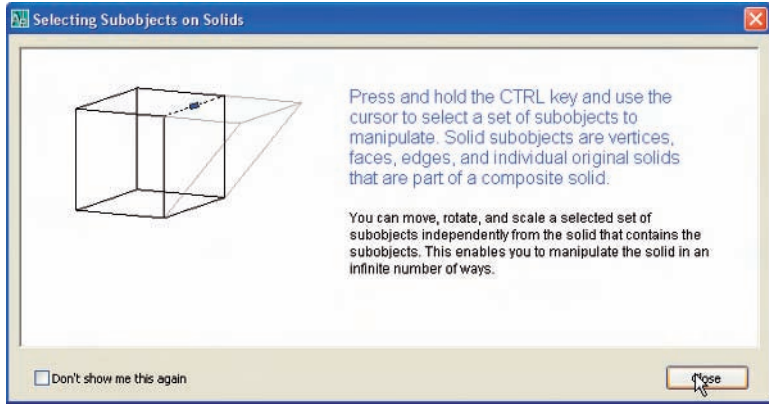

Fig. 19.19 The **Selecting Subobjects on Solids** warning window
9. Press and hold the **Ctrl** key. The **Selecting Subobjects on Solids** warning window (Fig. 19.19) appears. Click its **Close** button. Then